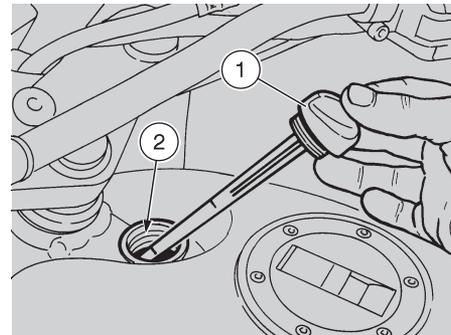

Fig. 26
CHECKING THE ENGINE OIL LEVEL AND TOPPING UP (Fig. 26)
CHANGING THE ENGINE OIL AND THE OIL FILTER (Fig. 26 ÷ 29)
- ◆ Remove the oil filling cap (1-Fig. 26).
- ◆ Pour about 1600 cm³ of engine oil through the filling opening (2-Fig. 26), see p. 59 (LUBRICANT CHART).
- ◆ Tighten the oil filling cap (1-Fig. 26).